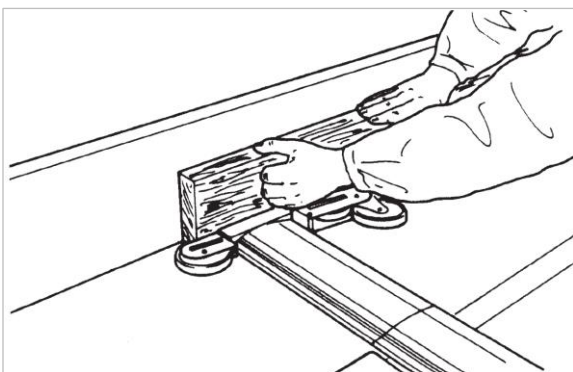

Figure 9: Edge planing of workpiece heights < 75 mm
- When feeding the workpiece against the fence, the bridge moves away from the fence up to max. 100 mm (see ⇒ Figure 9). After machining, the bridge automatically returns to its initial position.